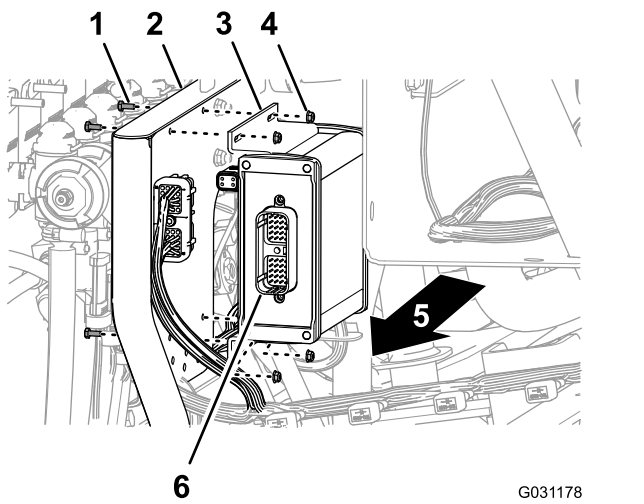

Figure 160
- Align the sprayer controller the forward side of the valve mount with the 40-pin connector outward (Figure 160).
- Assemble the sprayer controller to the valve mount (Figure 160) with the 4 bolts (4 x 10 mm) and 4 flange locknuts (4 mm).